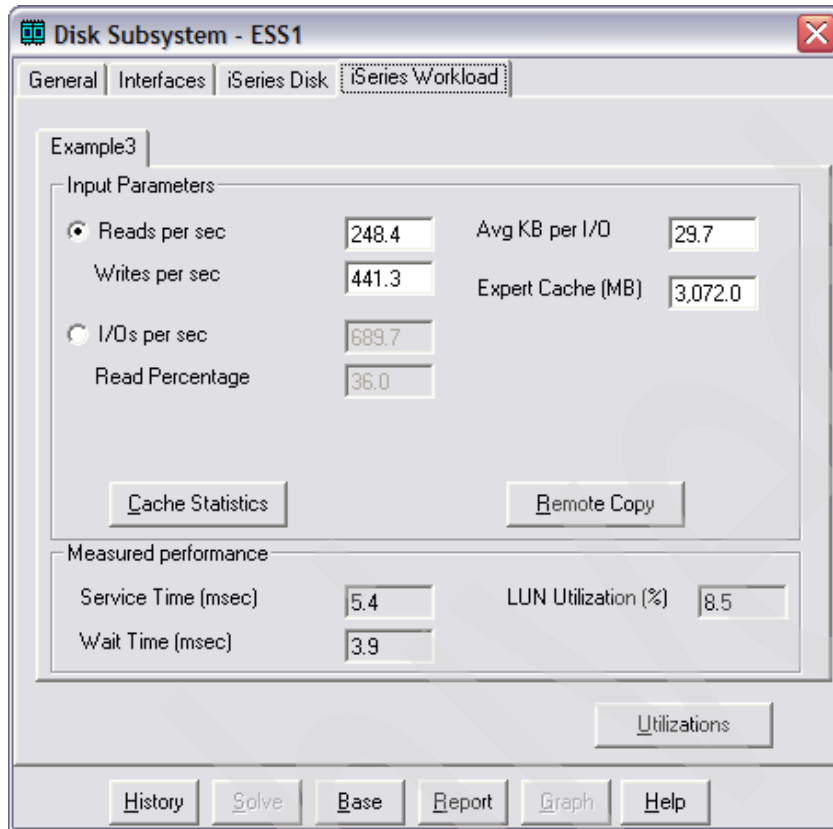

Figure 4-77 Current workload
- h. Select the iSeries Workload tab. Notice that the current I/O rate and block sizes are inserted by Disk Magic as shown in Figure 4-77.